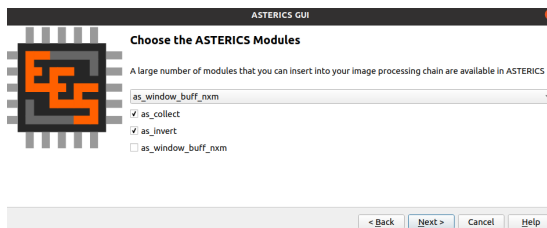

Figure 6.7.: Choose modules
3. Figure 6.7: The modules that are to process the input are selected from the list. It must be considered that not all *ASTERICS* modules are listed here because Automatics cannot automatically include all modules in an image processing chain or because they have already been used as input modules or output modules. If a